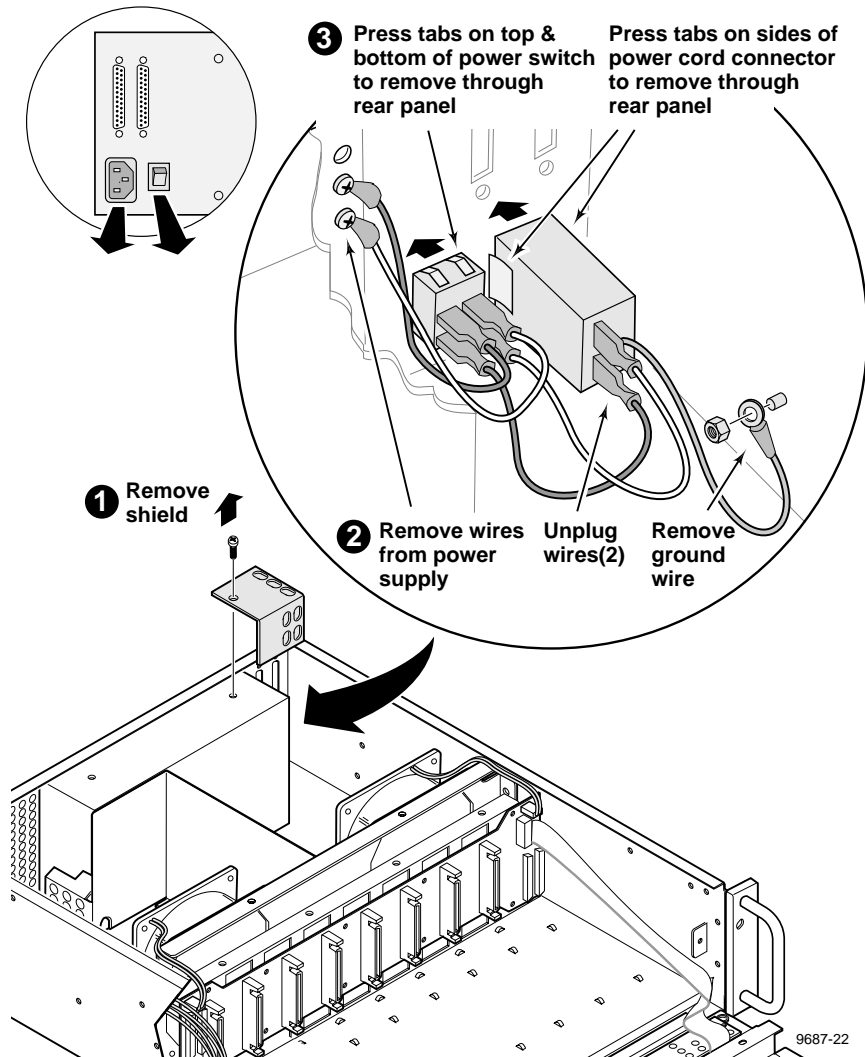

Figure 3-12. Removal of the Switch and Line In Cables
Figure 3-12 shows removal of the cable assembly that connects the Power Supply to the rear panel switch (item 8 in Table 3-1). This assembly includes the switch.
3. Remove the shield (Figure 3-12).
4. Disconnect the black and white cable wires from the right side of the Power Supply (Figure 3-12).
2. Connect the switch cable wires to the right side of the Power Supply as shown in the insert in Figure 3-12.
3. Connect the switch cables wires to the power connector as shown in the insert in Figure 3-12.
Figure 3-12 shows the cable assembly that connects the switch to the power cord connector (item 7 in Table 3-1). This assembly includes the source power connector and line filter. To remove the power connector cable assembly:
4. Disconnect the power connector wires from the switch assembly (Figure 3-12).
2. Connect the power connector cable wires to the switch assembly as shown in the insert in Figure 3-12.
3. Attach the chassis ground wire as shown in Figure 3-12.
4. Replace the shield (Figure 3-12).